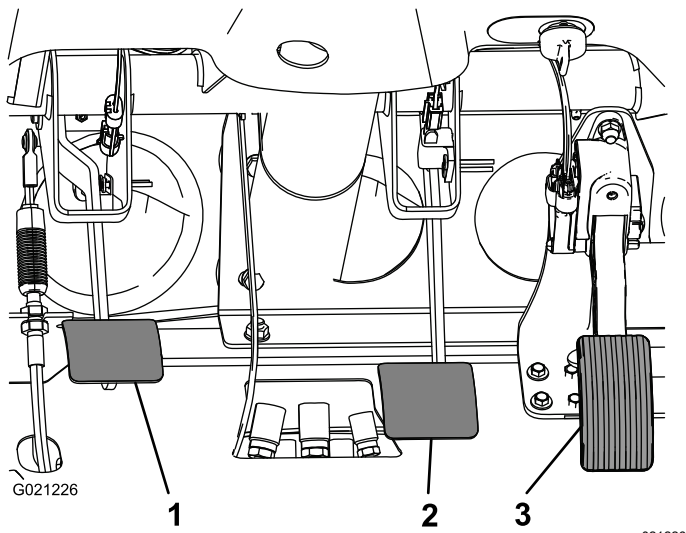

Figure 67
2. Lift up on the brake pedal (Figure 67) until it contacts the frame.
3. Loosen the jam nuts securing the yoke to the master cylinder shaft (Figure 67).